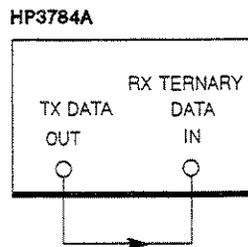

Figure 8-13 Ternary Data Input Test Set-up
1. Connect the equipment as shown in Figure 8-13 below.